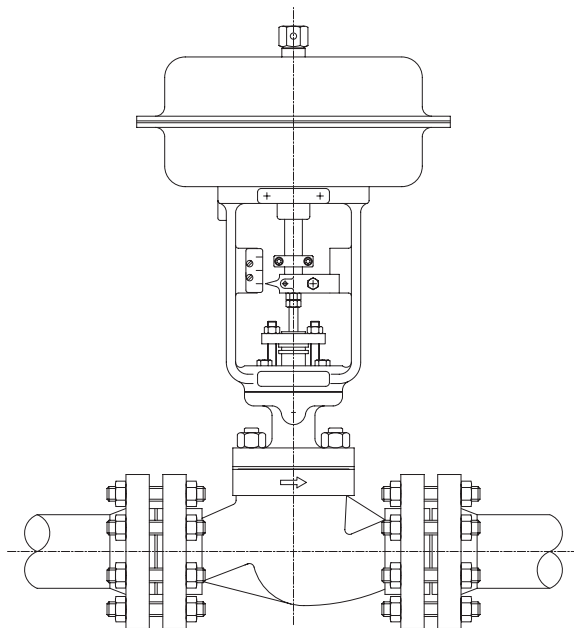

Fig. 1 - Valve installation
4.6 During the installation the actuator must be positioned on the valve and in vertical position (figure1). If possible, look for a position closer the vertical one. The horizontal position should be avoided and, in some cases, there should be a support to the actuator.